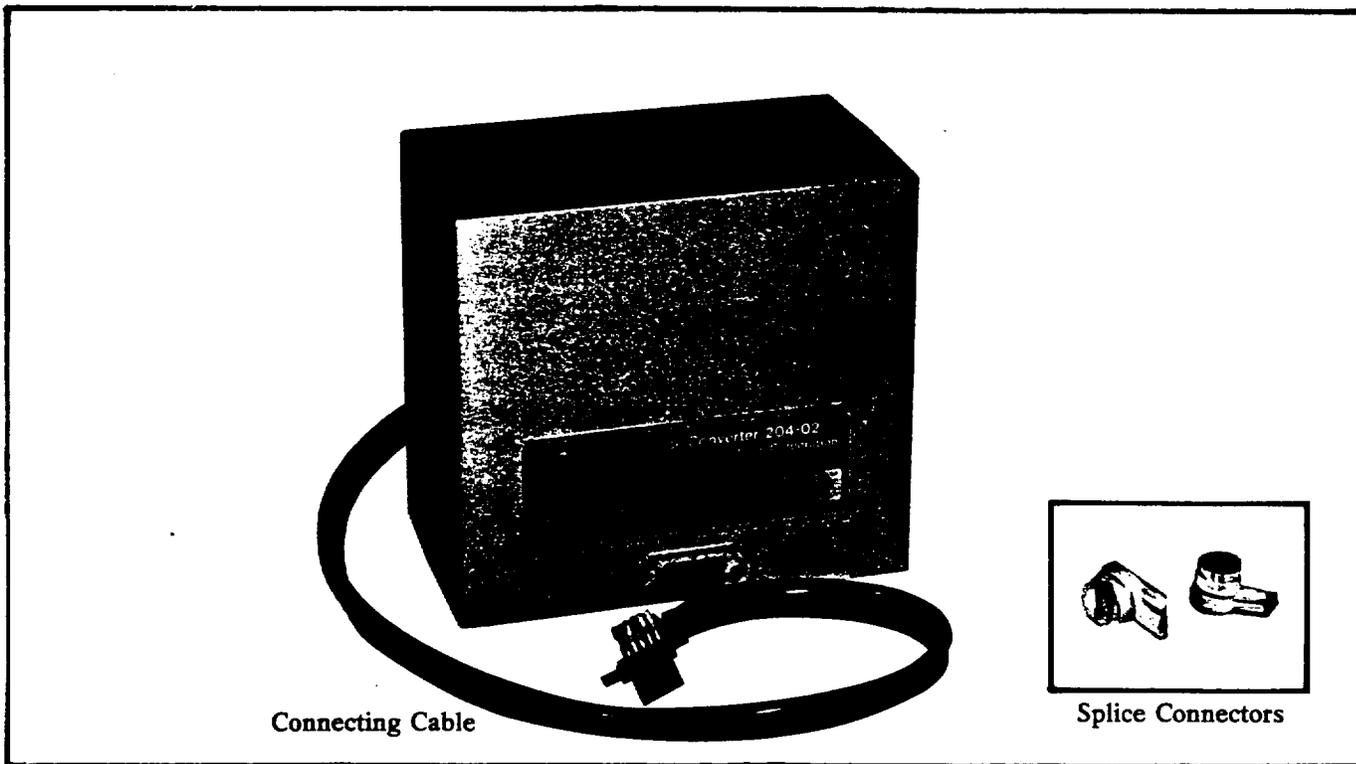

Figure 1. TonePulse Converter
3.01 The Model 204 TonePulse Converter (Figure 1) is a compact solid state device which measures 4" x 4½" x 2½" deep. The Converter can be, by